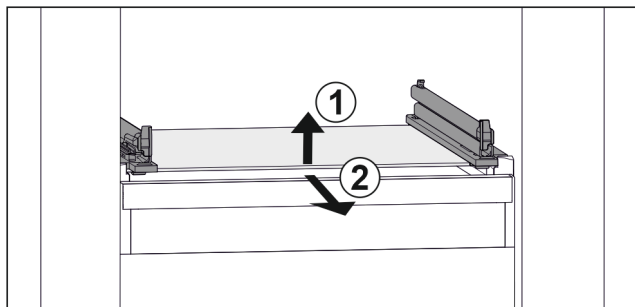

Fig. 88 Example illustration of glass shelf
- Lift glass shelf at the front. Fig. 88 (1)
- Take out glass shelf to the front. Fig. 88 (2)